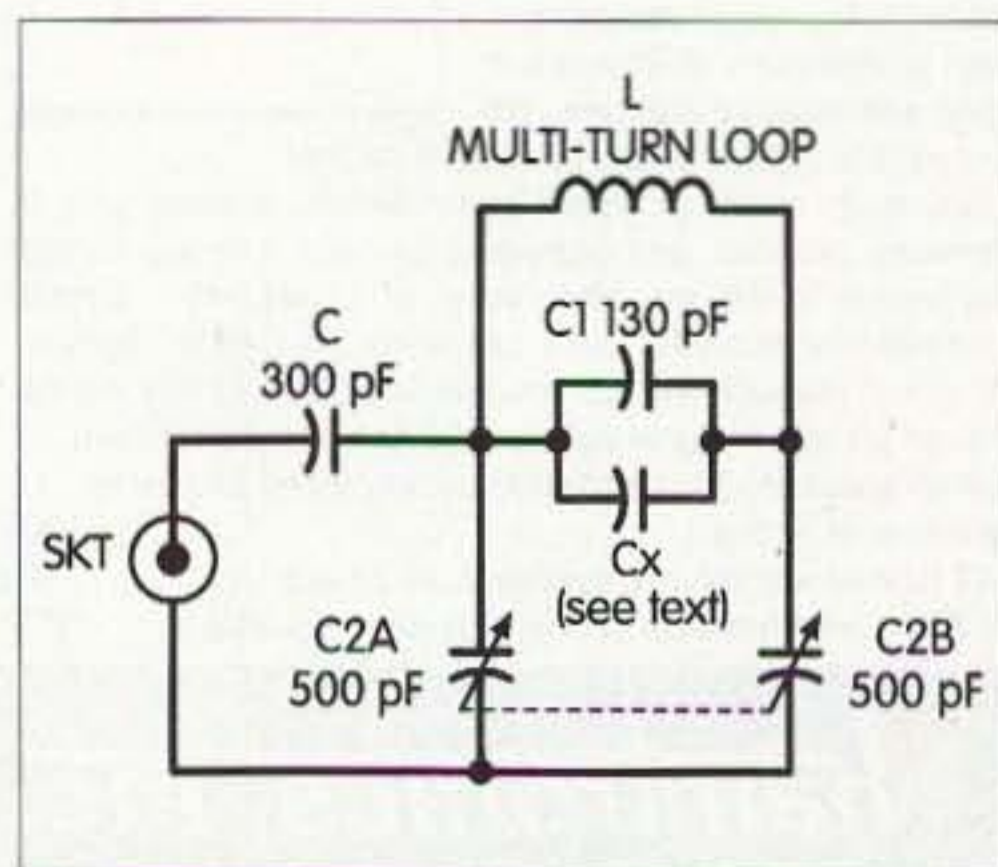

Fig. 1. Schematic.
**Fig. 1** illustrates the somewhat unusual schematic and unusual circuitry.
The loop ends are cut back and connected to the tuning capacitor (Fig. 1). The other wiring should be completed using 18- or 20-gauge tinned copper wire. All connections should be securely soldered. No mechanical joints should be used.